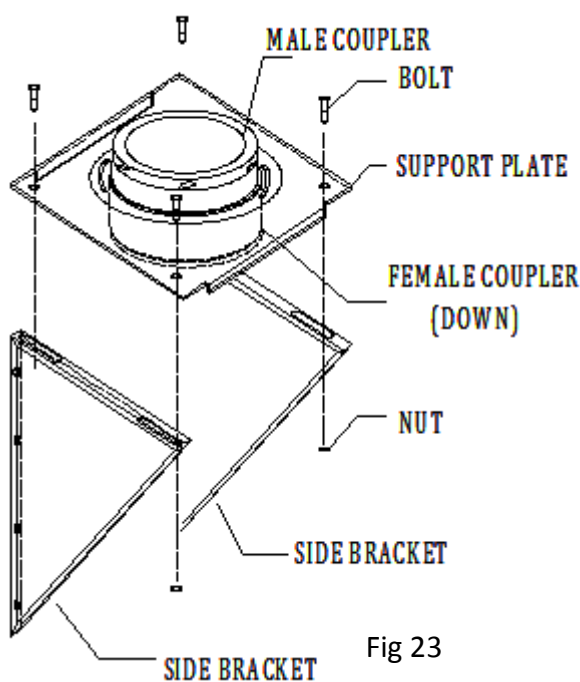

Fig 23
**3. Install Wall Thimble:** From the outside wall, put the outer half of the Wall Thimble in the opening. Center the outer half of the Wall Thimble. Secure the Wall Thimble to the outside wall with at least (4) 8 penny nails or (4) #8, 1-1/2" screws. For concrete wall, Wall Thimble is not needed. The hole on the wall just needs to be slightly larger than the chimney. Install the inner half (with round plate) of the Wall Thimble in the inside wall surface, ensuring that the shield slides into the shield of the outer half. Secure the Wall Thimble to the inside wall with at least (4) 8 penny nails or (4) #8, 1-1/2" screws
**4. Install Wall Support, Tee and Tee Cap:** Assemble the Wall Support (Figure 23) by attaching the 2 side brackets to the support plate, with the hardware supplied (female coupler of the insulated coupling section is down). Install one 6" Chimney Section (or longer as required) to the horizontal branch of the insulated tee. Lock securely into the tee by twisting clockwise. A locking band must then be installed at this connection. Make sure the clamp is facing down to prevent any water from collecting in the locking band.